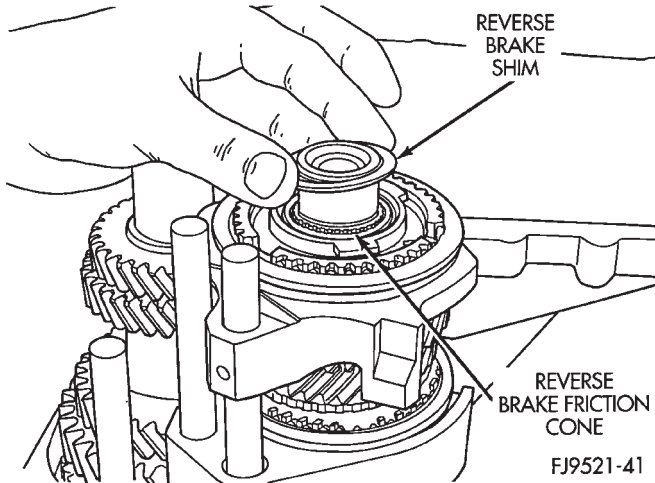
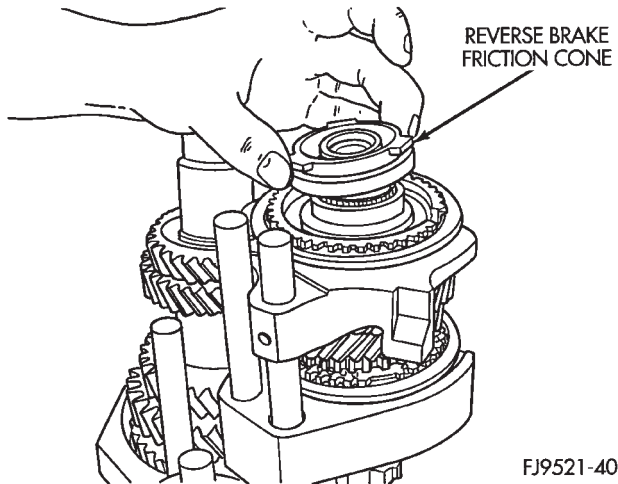
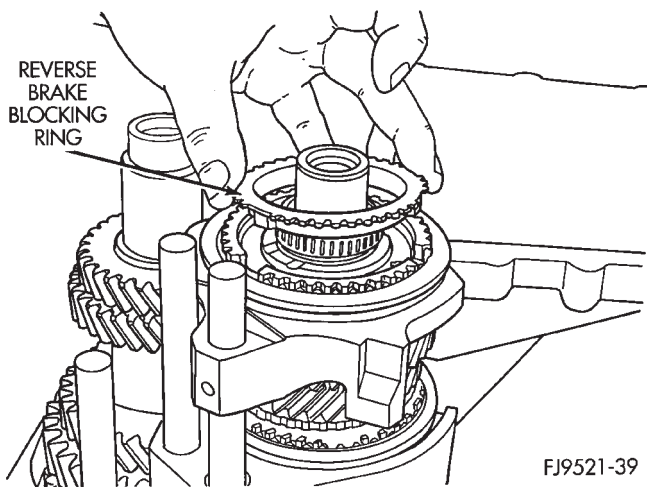

Fig. 58 Reverse Brake Shim
Fig. 59 Reverse Brake Friction Cone
Fig. 60 Reverse Brake Blocking Ring
(18) **TRANSAXLE W/REVERSE BRAKE:** Remove the reverse brake blocking ring, shim, reverse brake friction cone, bearing and race from the input shaft assembly (Fig. 58) (Fig. 59) (Fig. 60)